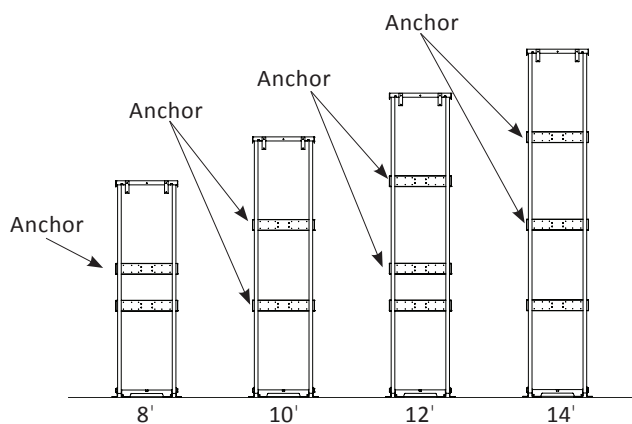

Figure 4-11
8' models must have the lift tower anchored into a solid surface at or above the top cross-brace of the tower frame. 10' or taller models must have the lift tower anchored at (2) levels into a solid surface at or above the top two (2) tower cross braces. This is to ensure running clearances remain constant. There are two options for anchoring the top of the tower. **See Figure 4-11.**